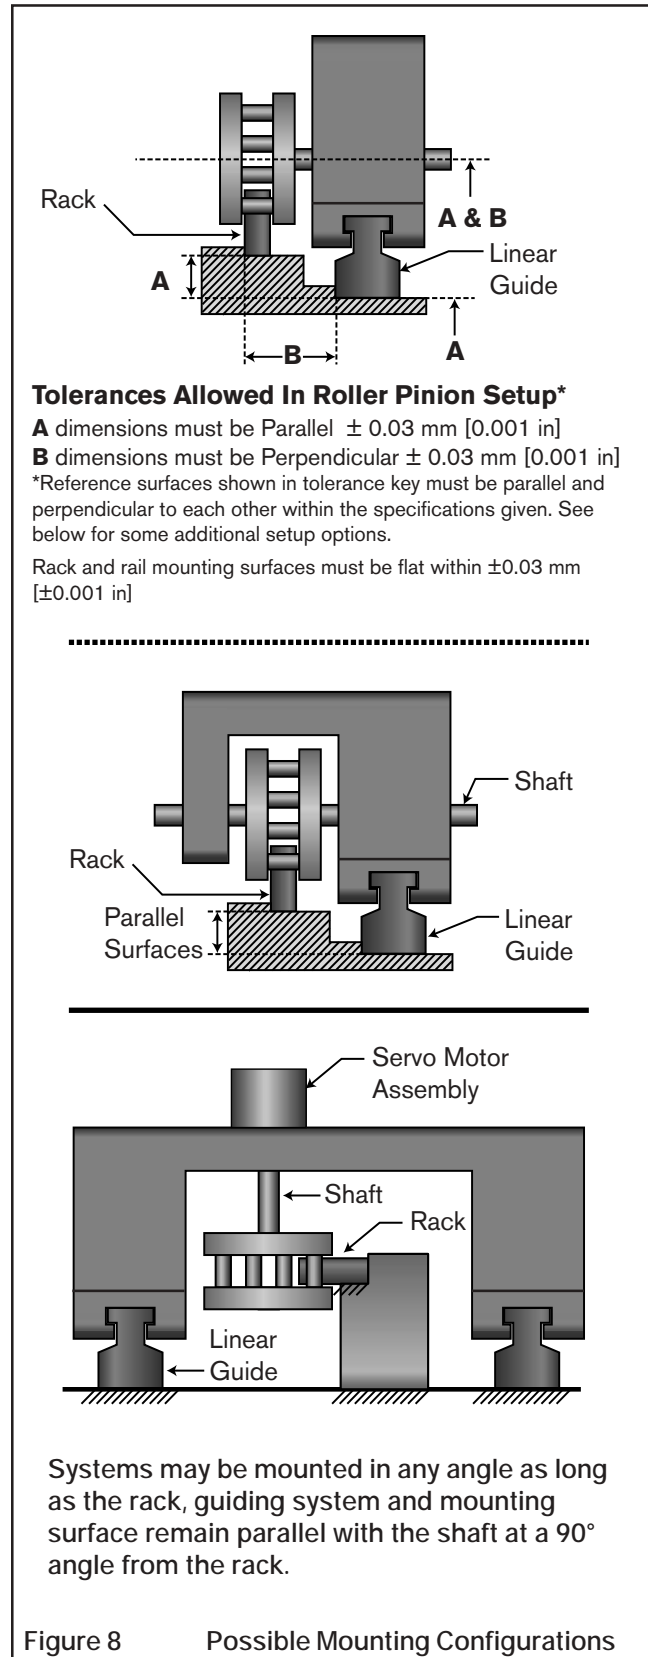

Figure 8 Possible Mounting Configurations
- Mount a linear guide rail on a surface parallel to the RPS Rack mounting surface with the same flatness and grade as the rack mounting surface (Refer to Figure 8).